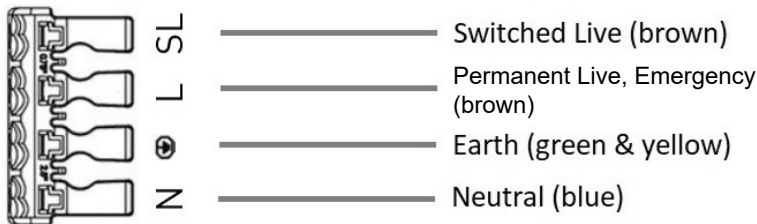

Fig. 4
- Connect the luminaire to the mains supply ensuring the correct polarity is observed: L - Permanent Live, Emergency (Brown), SL - Permanent Live (Brown), E - Earth (green/yellow), N - Neutral (blue) (see Fig. 4)